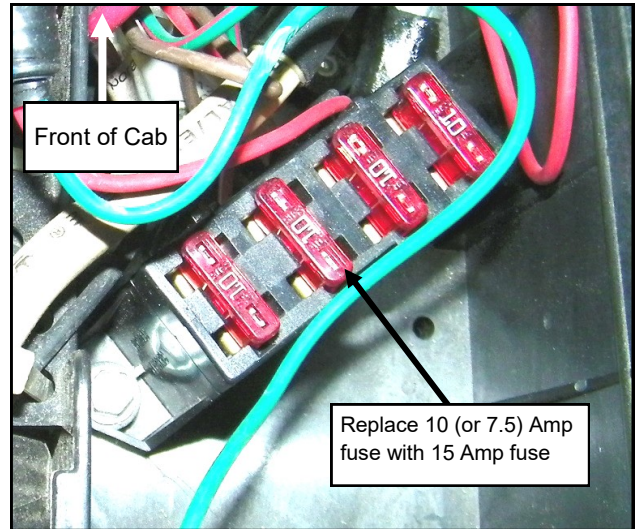

Fig. 5.3
- 5.3 Replace the 10-amp fuse (or 7.5 if cab is installed) with supplied 15-amp ATO/ATC fuse. (Figure 5.3) Reattach the cover onto the electronic component box. Tighten screw to 17 in-lbs (1.9 Nm).